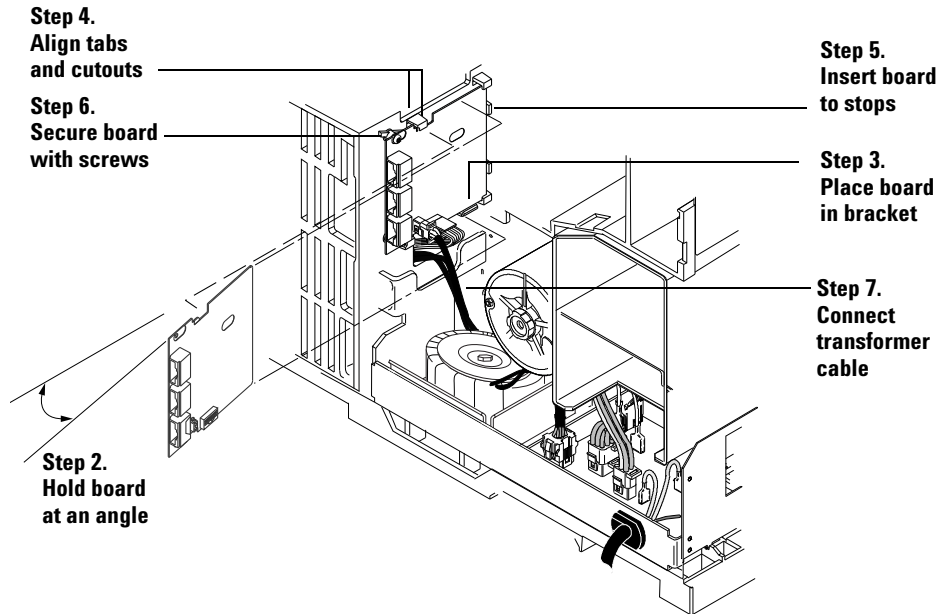
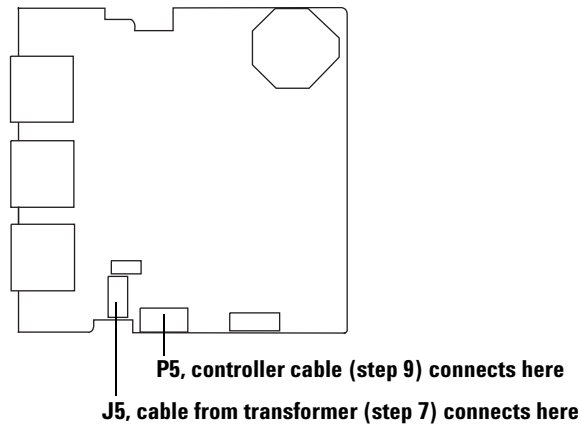
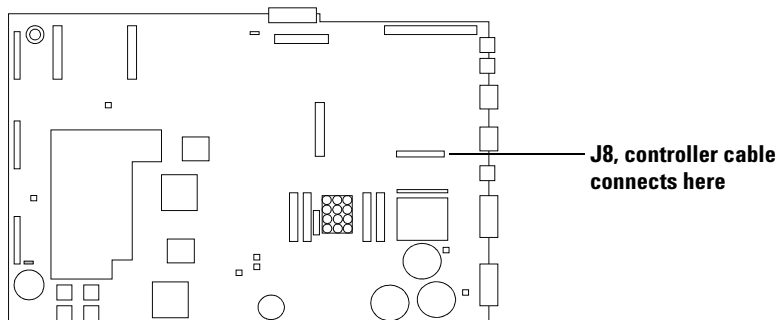

Figure 28 Installing the ALS interface board
Figure 29 ALS interface connectors
Figure 31 GC main board
- 2 Hold the board upright and slightly angled (Figure 28).
- 6 Secure the board to the chassis using two screws. The board should not be stressed or bowed against the locking tab (Figure 28).
- 7 Locate the 2-wire cable leading from the transformer and connect it to the ALS Interface board at J5. (Figure 28 and Figure 29).
- 9 Connect the Controller PCB Cable, part no. G2612-60510, to the main board at J8 and to the ALS Interface board at P5. Route the cable through the cutout in the main board (Figure 29 and Figure 31).